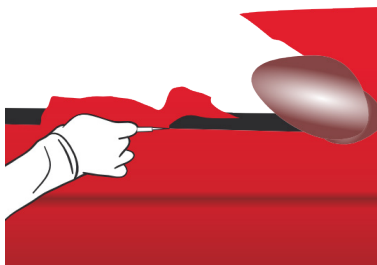

Figure 29
- › For the cut, the blade must be placed in a flat position, between the body and the seal, perpendicular to the seal. When cutting, make sure you always maintain this blade inclination. (FIG. 29)